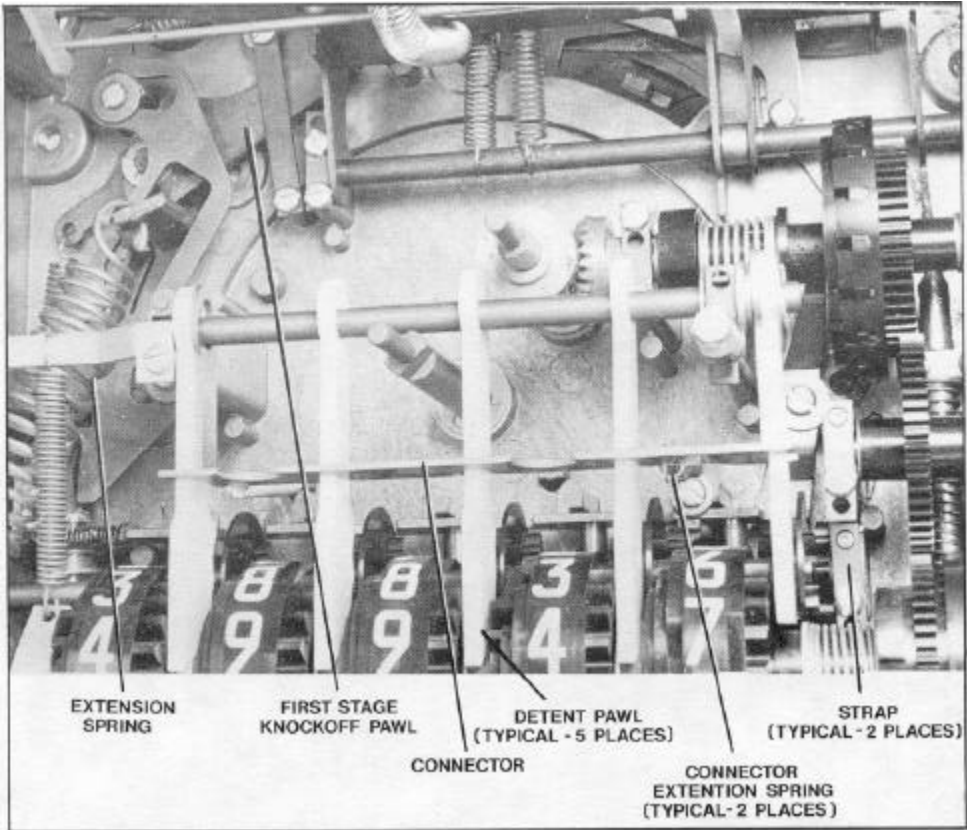

Figure 10. Meter Preset Parts Identification (Wheels Installed).
F. TROUBLESHOOTING. Refer to Figures 10, 11, and 13 for parts identification when using Troubleshooting Table 1.
2. Remove two connector extension springs (Figure 10).
3. Remove extension spring from between strap securing left side of pinion shaft and shift bar (Figure 10).
4. Swing connector and detent pawls (Figure 10) away from wheel shaft group to rear of Preset.
5. Remove large extension spring from between strap that secure left side of wheel shaft and tab on knockoff plate (Figure 10).
6. Remove pan head retaining screws and two straps securing wheel shaft group (Figure 10).
6. Install two straps and the pan head screw that secure the wheel shaft (Figure 10).
8. Swing detent pawls and connector down toward front of Preset (Figure 10).
9. Install extension spring between strap securing left side of pinion shaft and shift bar (Figure 10).
10. Install two connector extension springs between connector and base of Preset (Figure 10).